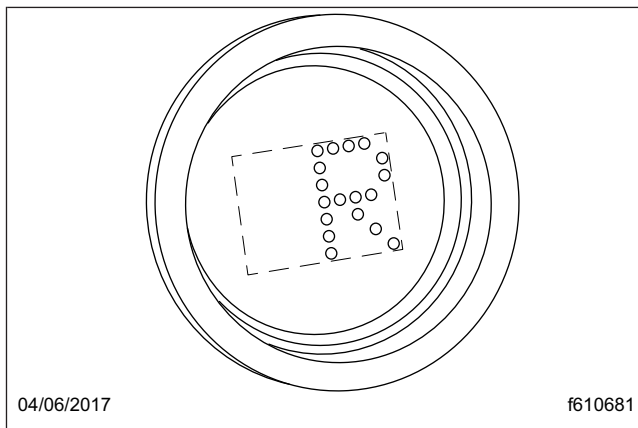

Fig. 8.18, Reverse Gear Display
Reverse (R) is at the upper end of the three-position selector switch located at the end of the SmartShift control lever. To select reverse (R), press in the neutral lock button and move the selector switch upward to the position above neutral. When reverse is selected, the letter "R" displays on the gear indicator. See Fig. 8.18.